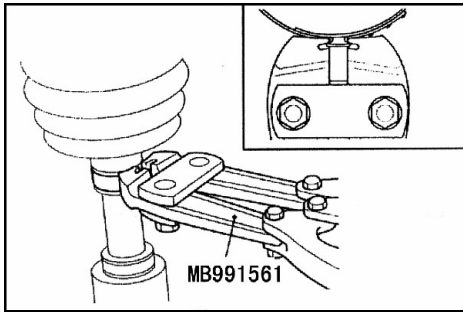

Fig.12-37
- ⑨ Check that the R.J. boot band is not sticking out past the place where it has been installed. If the R.J. boot band is sticking out, remove it and then repeat the operation in steps 6 to 8 using a new R.J. boot band. (see Fig.12-37).